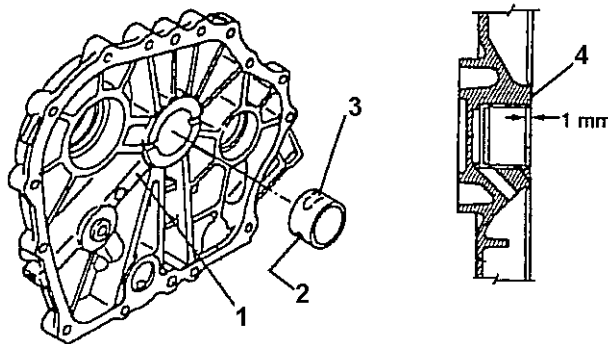

Figure 7. Crankshaft Bearing Installation.
2. Ensure the oil groove (3) is facing up and oil hole (2) on the bearing is lined up with the oil passage (1). See Figure 7.
3. Ensure that the bearing is sunk 0.0394 inch (1 mm) below the face of the crankcase cover (4).